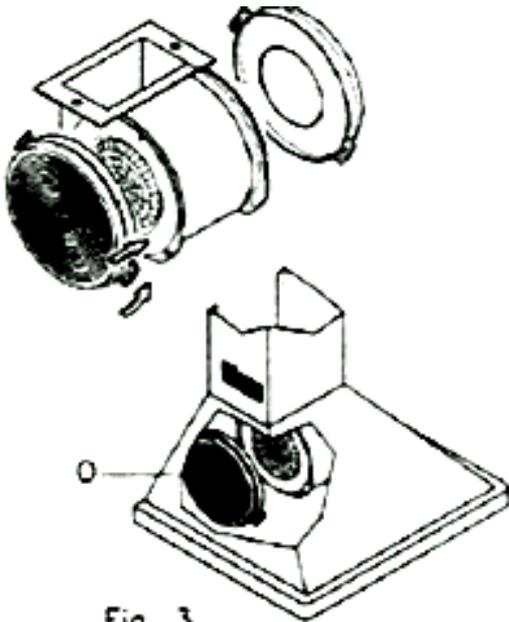

Fig. 3
- 3) Place the new carbon filters (which have two fixing tongues), turning clockwise so that the tongues latch onto the motor's sides. (Fig. 3 - left).